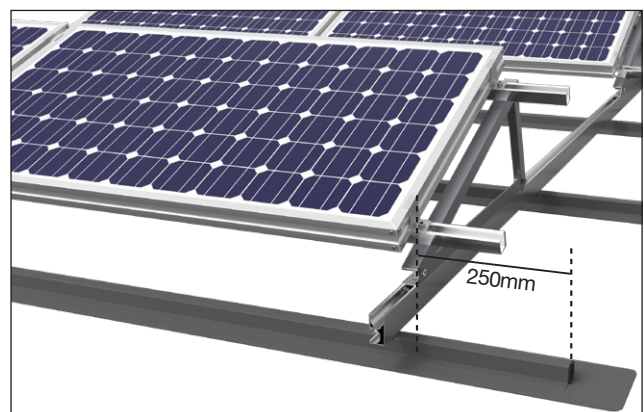

Figure 6
- The EJOBAR must extend 250mm past the edge of rail system - **see figure 6.**